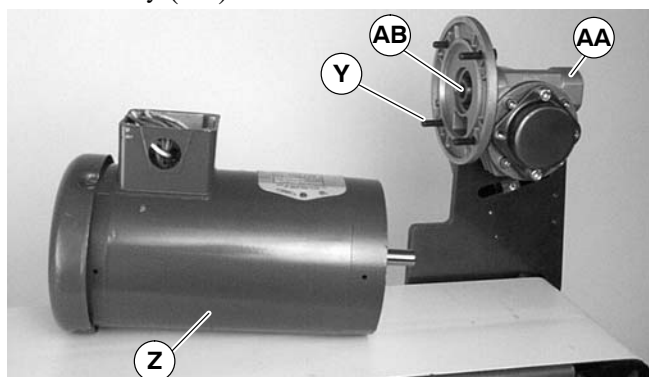

Figure 29
4. Remove four screws (Y of Figure 29). Detach motor (Z) from gear reducer (AA). Retain motor output shaft key (AB).